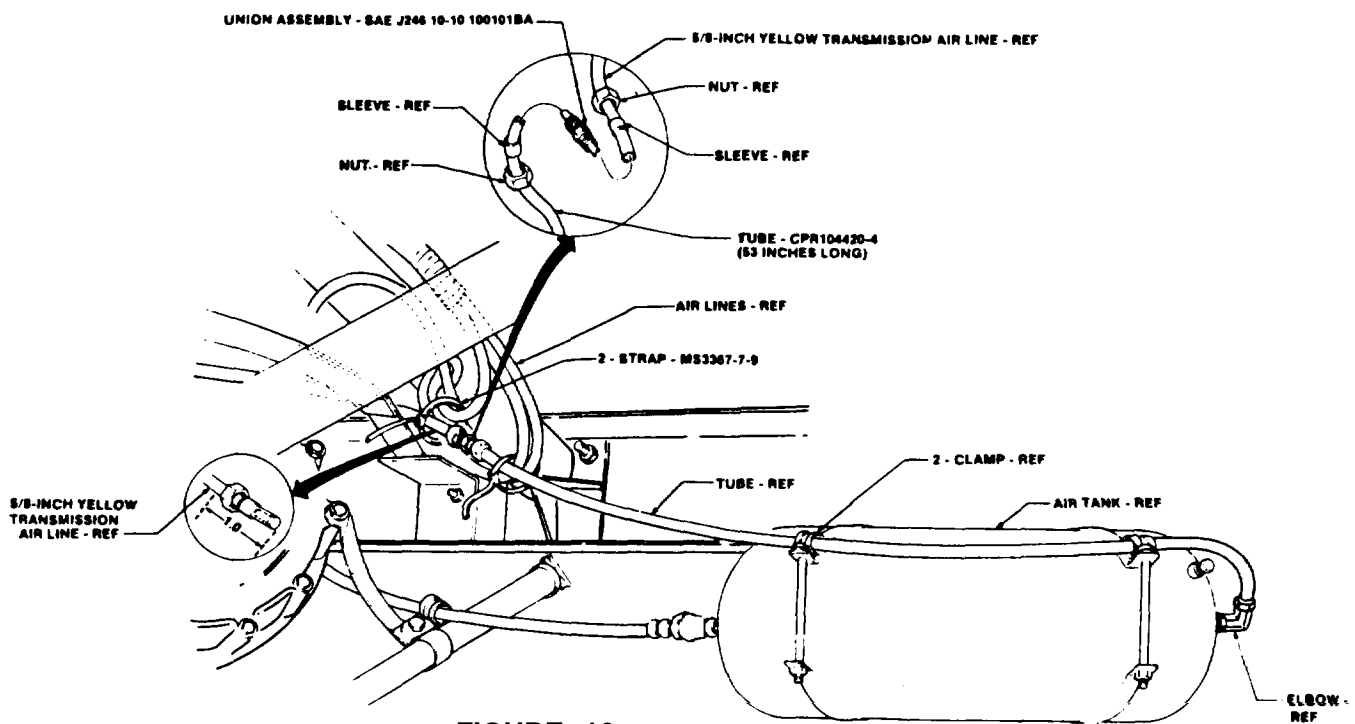

FIGURE 16
(15) Cut off one inch of existing 5/8-inch yellow transmission airline as shown in figure 16, and discard fitting.
(16) Install SAE J246 10-10100101BA union assembly on 5/8-inch yellow transmission air line and secure with sleeve and nut as shown in figure 16. Retain sleeve and nut for use within step 17.
(17) Install CPR104420-4 (53 inches long) tube on union assembly and secure with sleeve and nut as shown in figure 16.
(19) Install two MS3367-7-9 straps around airlines as shown in figure 16.